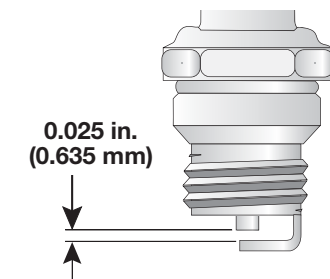

Fig. 31
4. Replace cracked, fouled or dirty spark plug. Set the air gap at 0.025 in. (0.635 mm) using a feeler gauge (Fig. 31).